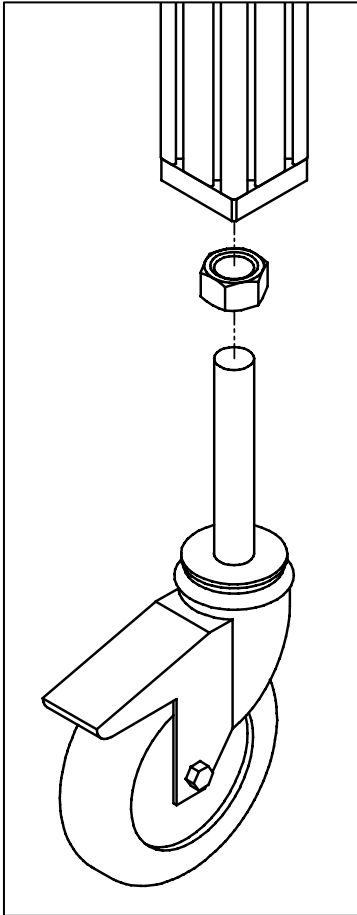

Figure 1
① Adjust Casters on Aluminum Stands
a. Once the conveyor is mounted on the stand, the caster's stem can be used for final height adjustment, up to 1 1/2" up or down. Use a large adjustable wrench to loosen the hex nut, engage the swivel lock, then rotate the caster to the desired height by hand, and finally retighten the Hex Nut to secure it in position (**Figure 1**).
② Secure the System